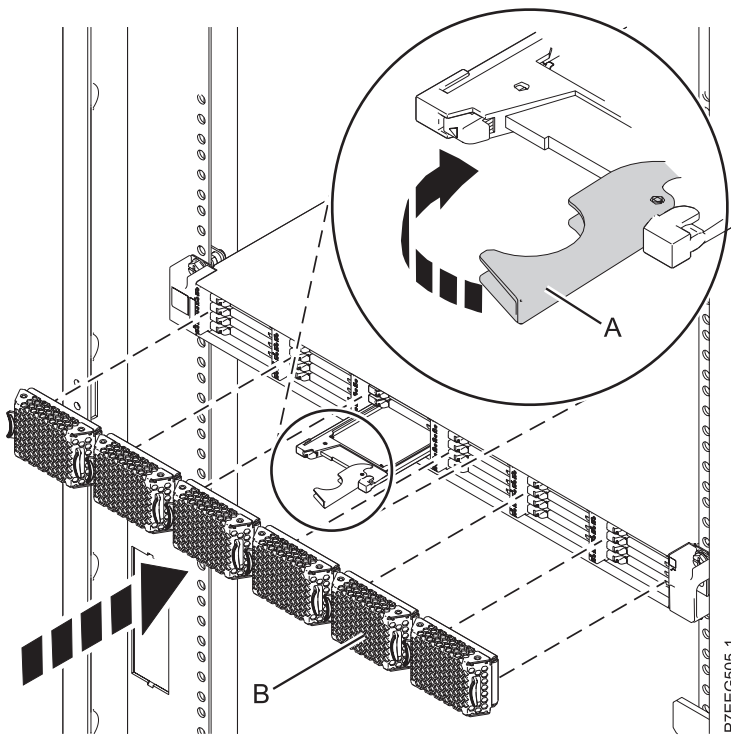

Figure 28. Replacing a solid-state drive in the 58/88 PCIe storage enclosure.
4. When the solid-state drive identify LED turns on solid, slide the solid-state drive all the way into the 58/88 PCIe storage enclosure until it is fully seated. Then rotate the handle (A) to the locked position. See Figure 28.
6. Install the bezel (B).